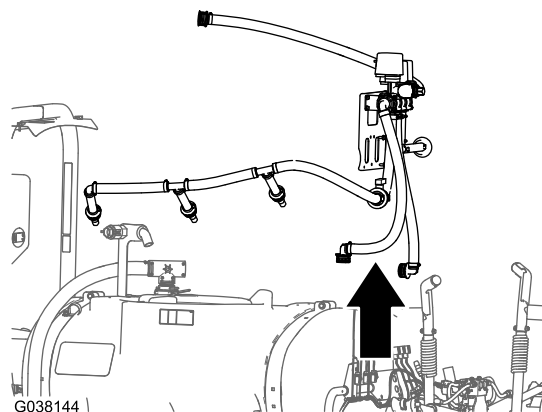

Figure 27
2. Remove the bracket, valves, hoses, and agitation nozzles from the machine (Figure 27).